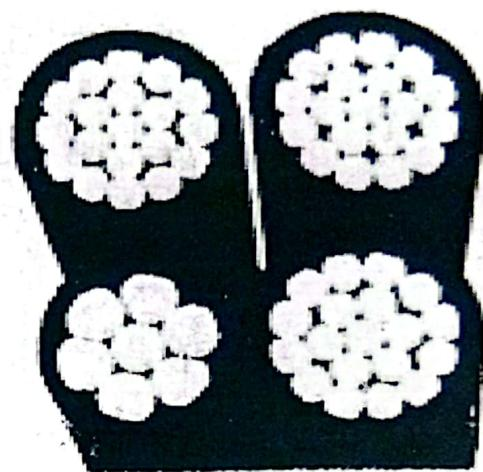

Figure 2 : Neutral Supported Cable
- Neutral supported (Refer figure 2) - the phase cores are laid up around an aluminium alloy neutral, which acts as a catenary to support the whole bundle.